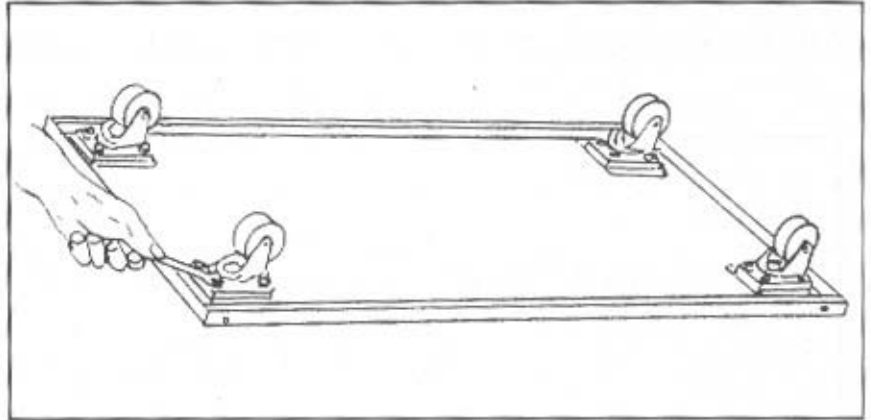

Figure 1
1. To assembly, position the main base upside down and locate the casters so they are with in easy reach. Mounting the casters to the main base using sixteen 5/16"x1/2" hex. bolts provided. Showing as **Figure 1**.